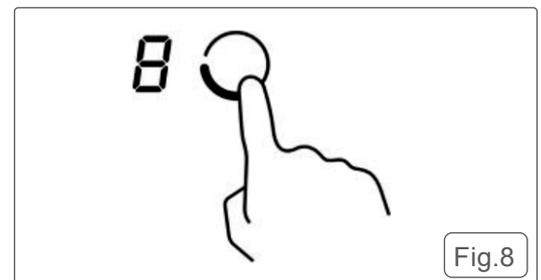

Fig.8
1. Select the cooking zone with the Keep Warm function (front left zone). Fig.8.